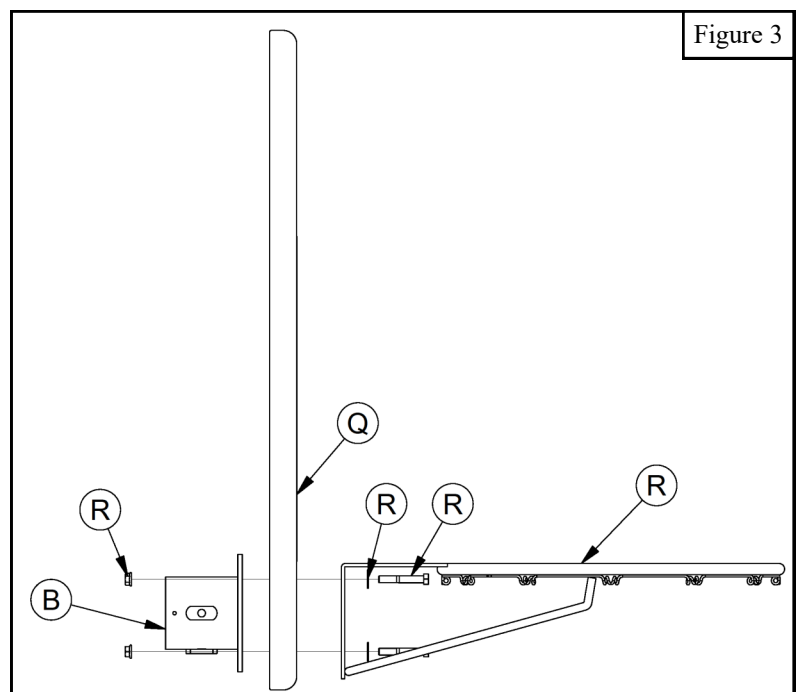

Figure 4
8. Slide two *Band Clamps* (C) onto the horizontal portion of the *Gooseneck Pole* (A). See Figure 4.
9. Install the *Backboard Mounting Bracket* (B), *Backboard* (Q), and *Rim* (R) assembly onto the end of the *Gooseneck Pole* (A). It is easiest to install the assembly upside down and then rotate 180° before installing and tensioning the $1/2"$ *Square Head Set Screws* (O). Confirm that the *Rim* (R) and *Backboard* (Q) are level before tightening the $1/2"$ *Square Head Set Screws* (O) against the *Gooseneck Pole* (A). Install and tighten the $1/2"$ *Jam Nuts* (P) to lock the $1/2"$ *Square Head Set Screws* (O) in place. See Figure 4